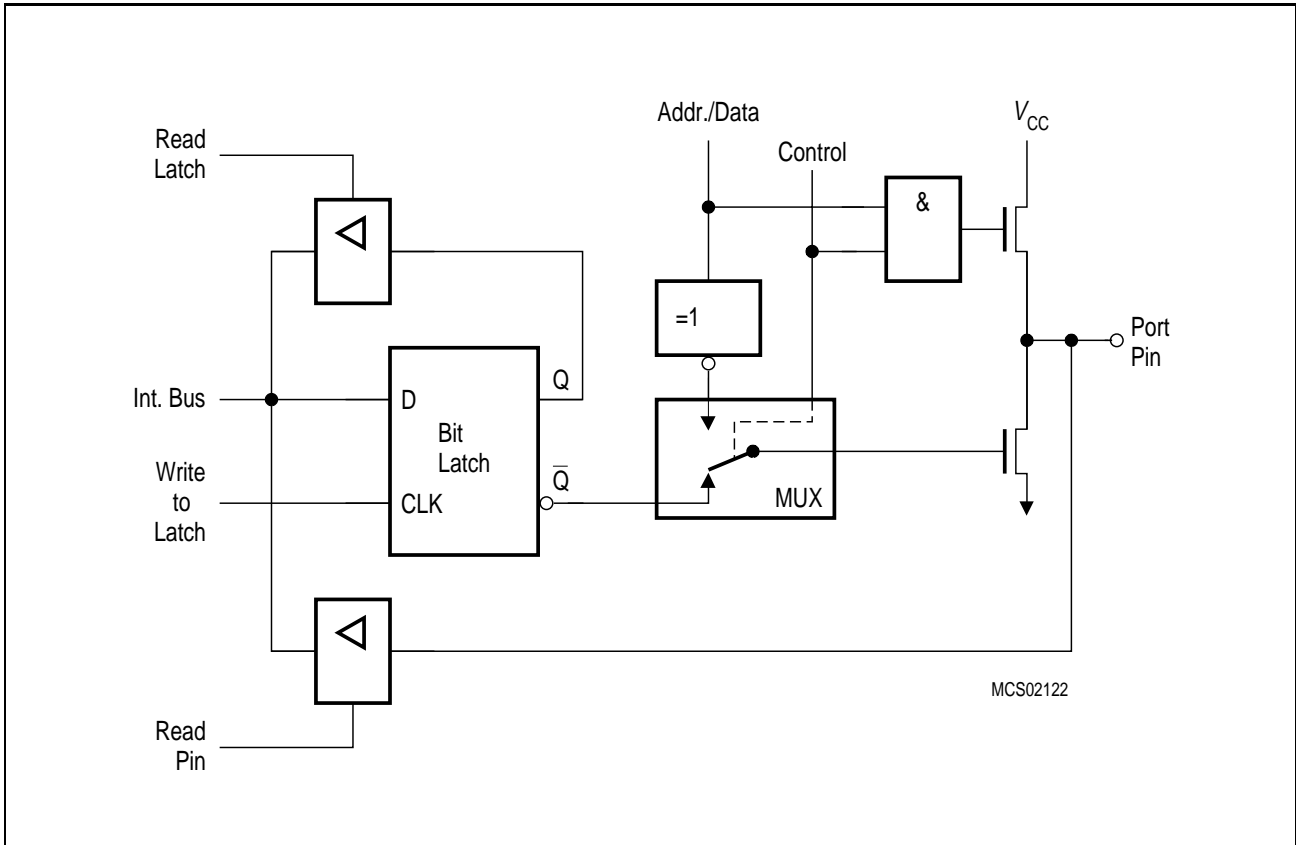
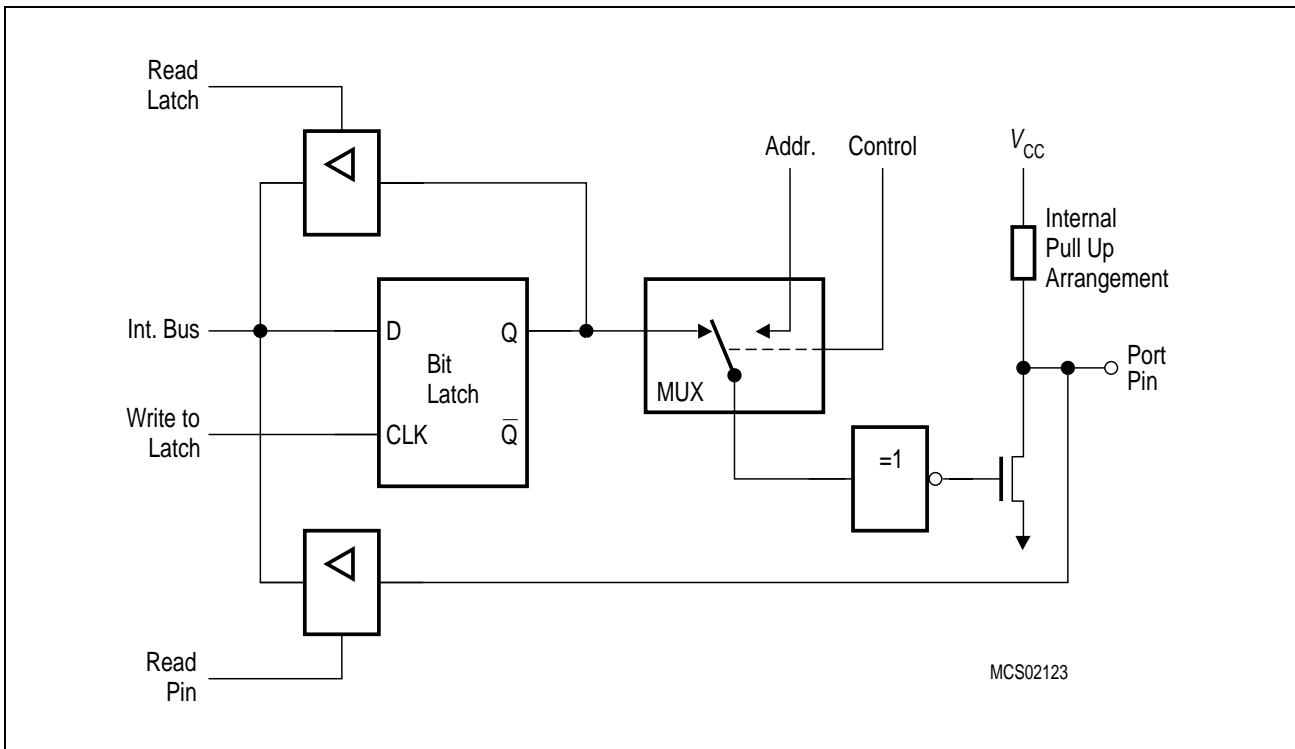

Figure 6-4a
Figure 6-4b
Port 0, in contrast to ports 1, 2 and 3, is considered as "true" bidirectional, because the port 0 pins float when configured as inputs. Thus, this port differs in not having internal pullups. The pullup FET in the P0 output driver (**see figure 6-4a**) is used only when the port is emitting 1 s during the external memory accesses. Otherwise, the pullup is always off. Consequently, P0 lines that are used as output port lines are open drain lines. Writing a "1" to the port latch leaves both output FETs off and the pin floats. In that condition it can be used as high-impedance input. If port 0 is configured as general I/O port and has to emit logic high-level (1), external pullups are required.
As shown in **figure 6-4a** and below in **figure 6-4b**, the output drivers of ports 0 and 2 can be switched to an internal address or address/data bus for use in external memory accesses. In this application they cannot be used as general purpose I/O, even if not all address lines are used externally. The switching is done by an internal control signal dependent on the input level at the EA pin and/or the contents of the program counter. If the ports are configured as an address/data bus, the port latches are disconnected from the driver circuit. During this time, the P0/P2 SFR remains unchanged. Being an address/data bus, port 0 uses a pullup FET as shown in **figure 6-4a**. When a 16-bit address is used, port 2 uses the additional strong pullups p1 to emit 1's for the entire external memory cycle instead of the weak ones (p2 and p3) used during normal port activity.